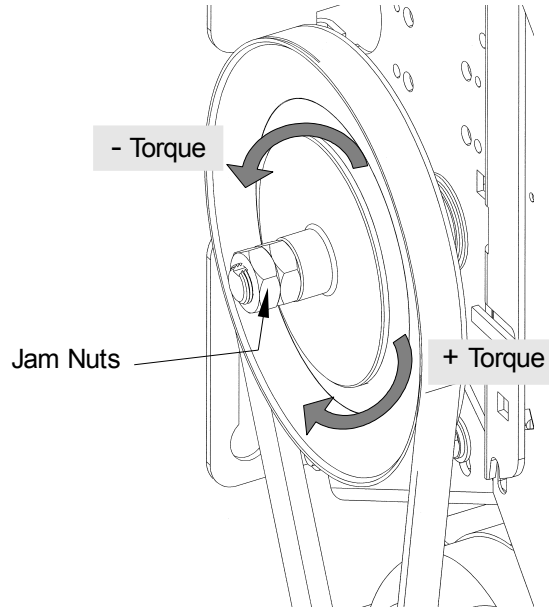

Figure 40 - Clutch Adjustment
1. Unlock the jam nuts with two (2) 15/16" keys, refer to Figure 40.